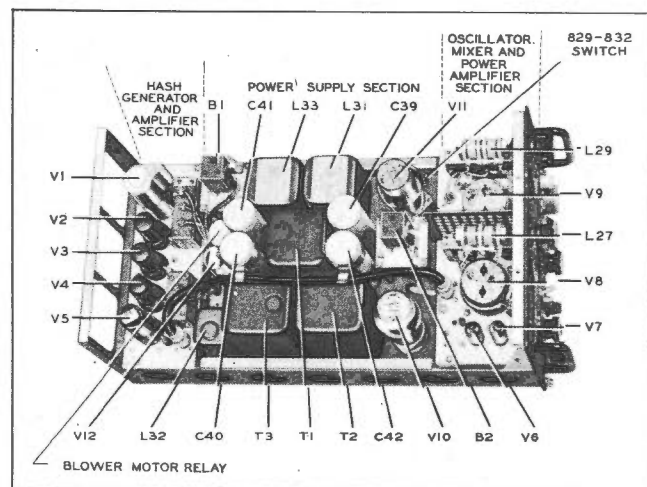

Figure 2-10. Radar Transmitter T-28/APT-1 —Top View with Dust Cover Removed
(3) See that all vacuum tubes and pilot lamps are in place.
(4) Note what tube is in the final amplifier position (JAN-832 or JAN-829B) and see that the 832-829 switch is in the corresponding position. (See fig. 2-10.)
(5) Make sure that two Buss type 4AB5, 5-ampere spare fuses are mounted on the back of the front panel.
(6) Replace the transmitter in its dust cover and make secure to the mounting.
(7) Make certain that the following components on the front panel of the transmitter are in place and securely held:
(8) See that the antenna, its wiring, and plugs are in place and securely held.
(9) See that the control unit is secure in its mounting and that plug AN3106-18-9S is tight.